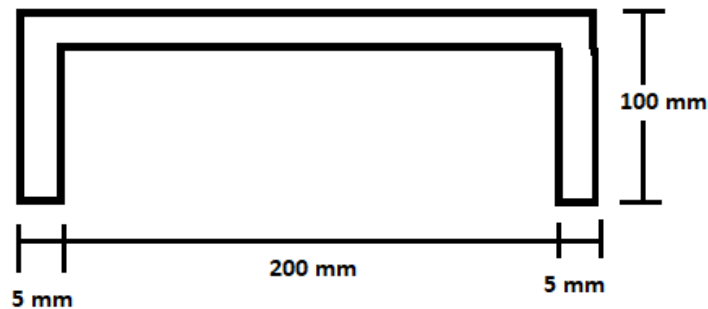

Fig. 11 Cross-Section of beam
- (Q.11) A beam is subjected to maximum bending moment 200 kN-m and maximum shear force 100 kN (Fig.11). Draw **the bending stress** and **shear stress distribution** over the cross section of the beam if the thickness of web and flange is 5 mm. (7 Marks)